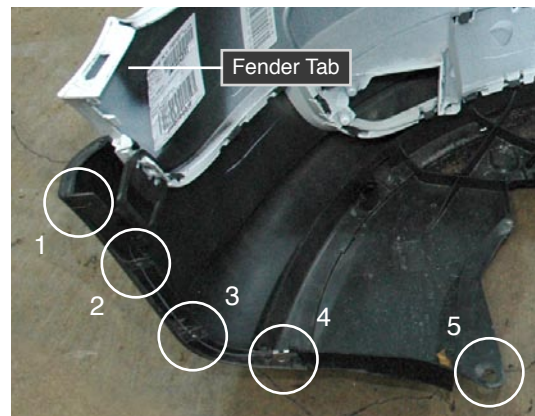

Figure 2.3
- Remove the five (5) fasteners securing the front fascia in each fender well (see Fig. 2.3).
- Starting at the upper rear corners of the front fascia, pull fascia away from fender to release fender tab (see Fig. 2.3).